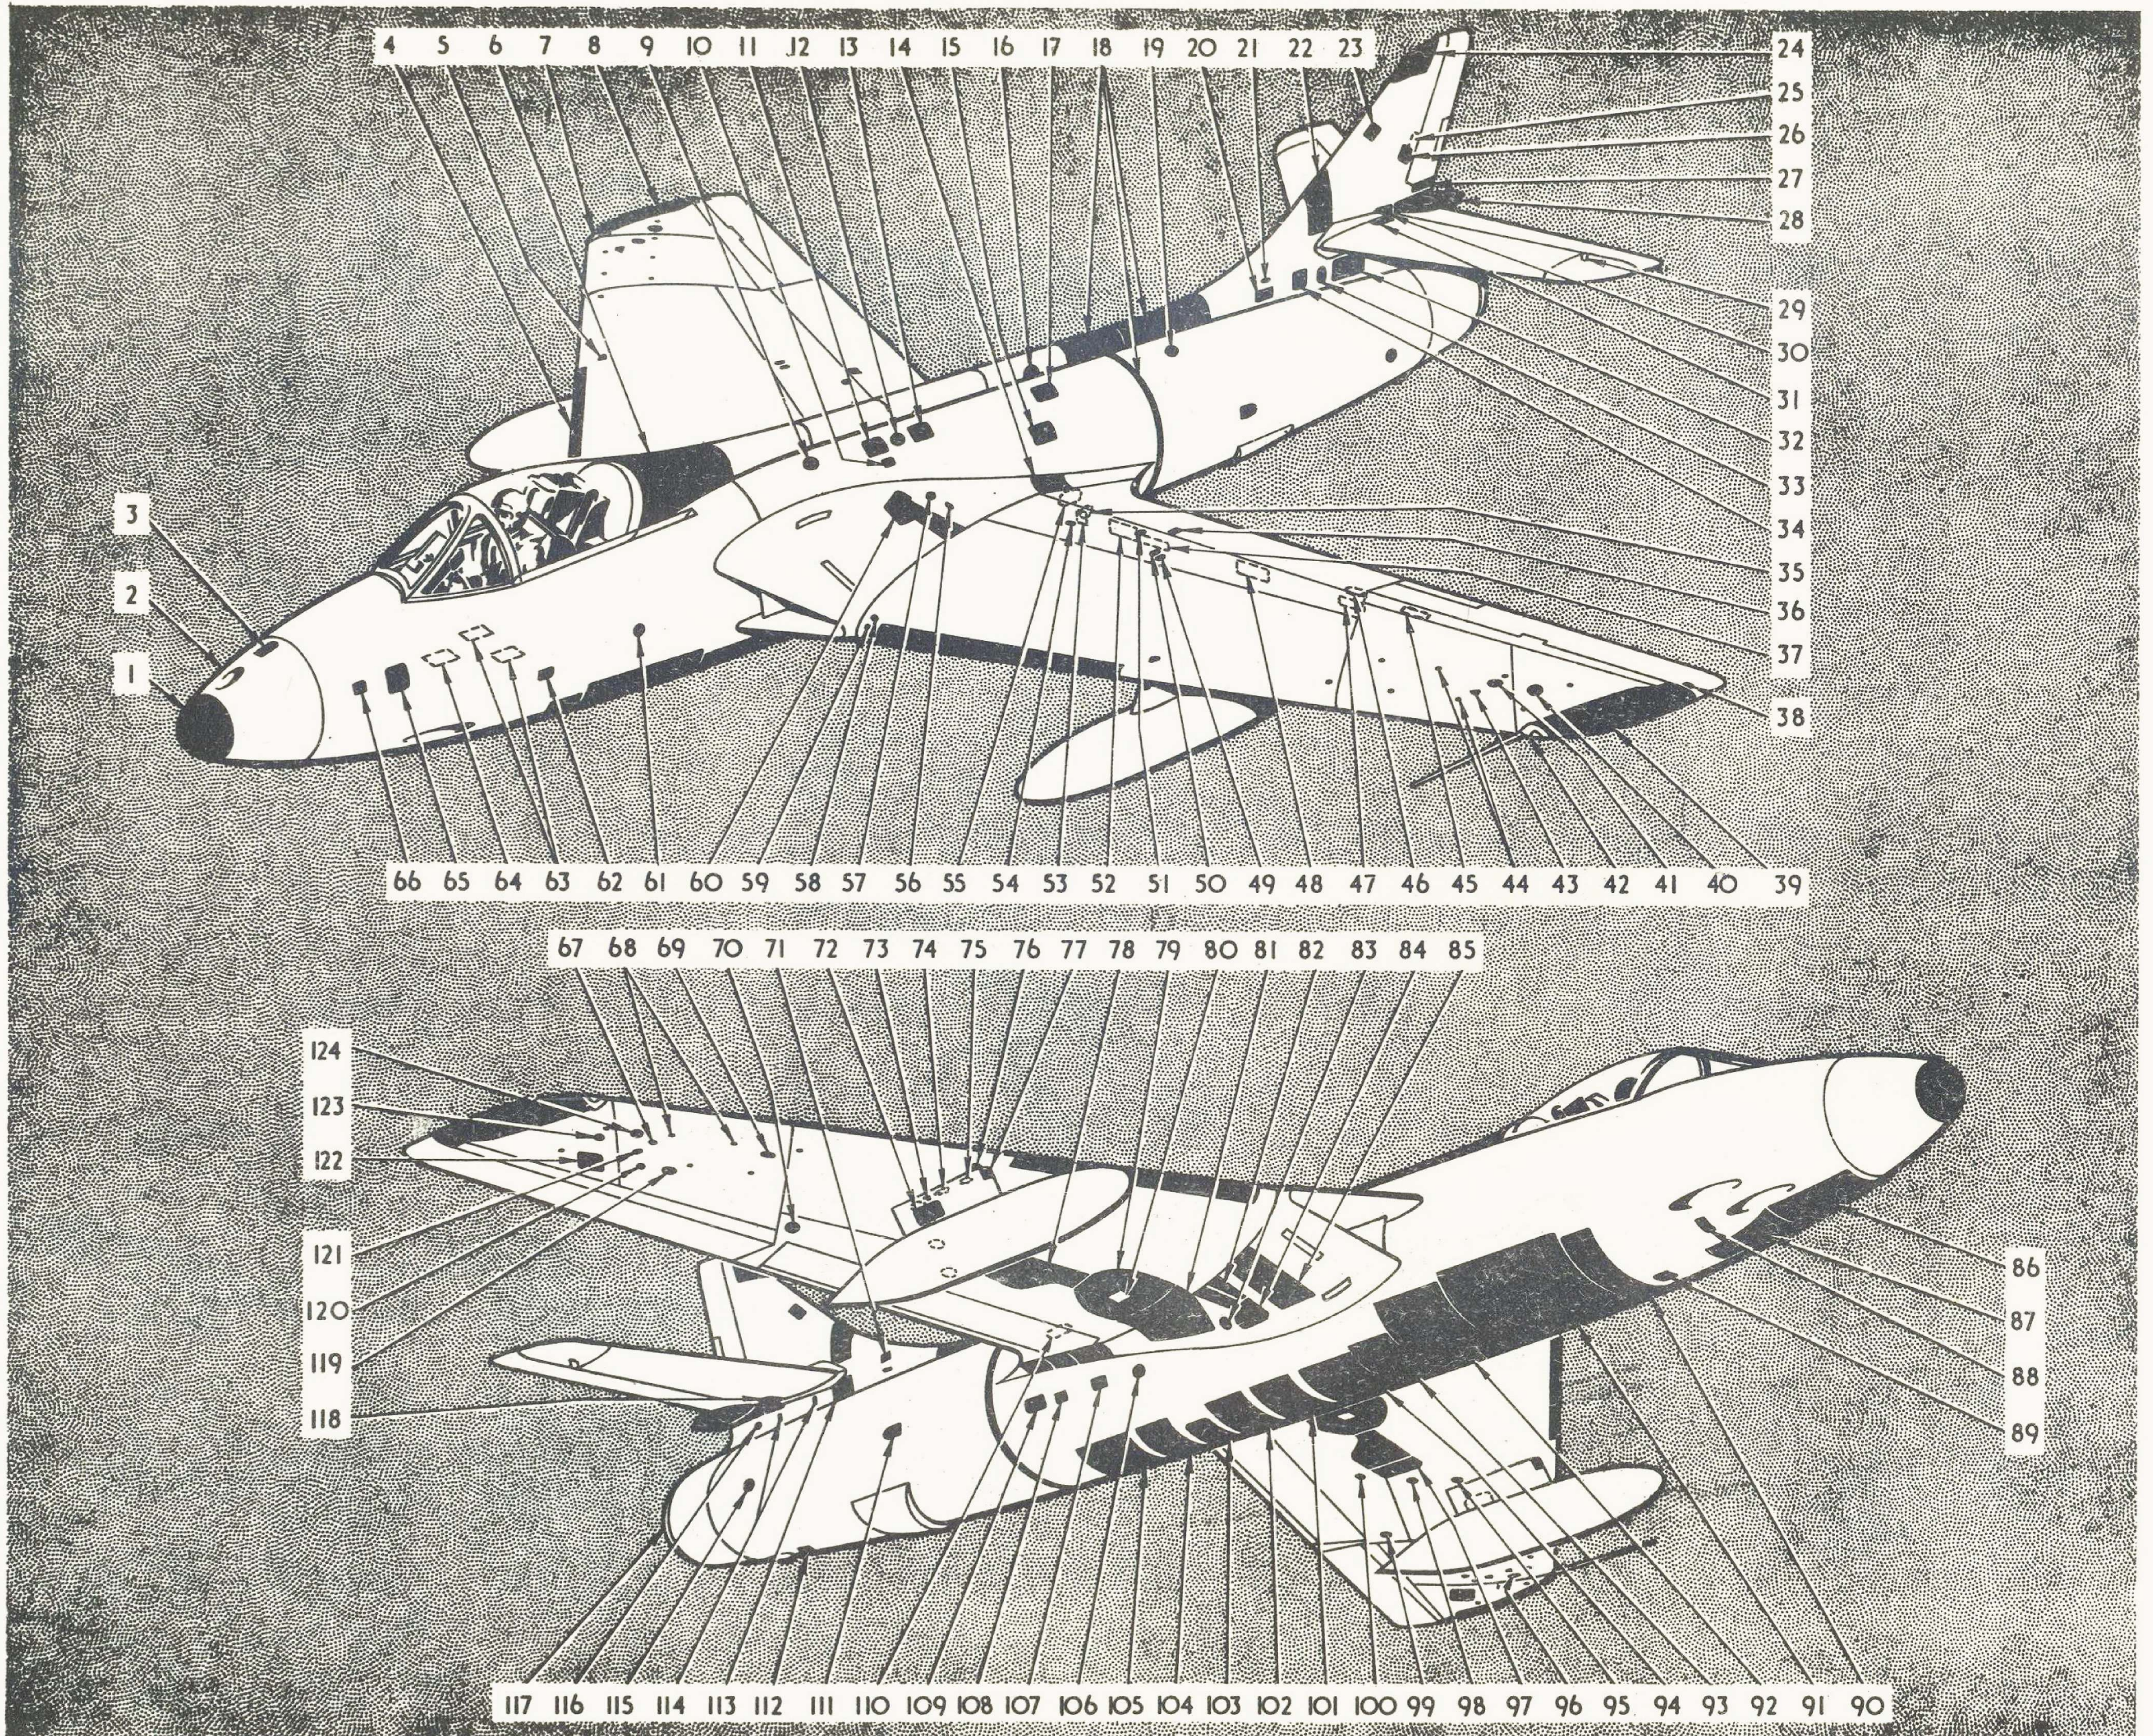

FIG. 2 ACCESS PANELS
5. The location of the access doors and removable panels are shown in fig.2, the components to which they give access being given in the key. When handling the doors and panels, care should be taken to ensure that they are not damaged or distorted in any way. When re-fitting them, ensure that they fit flush with the surrounding surface and that they are secure and effectively locked.
KEY TO FIG. 2 ACCESS PANELS